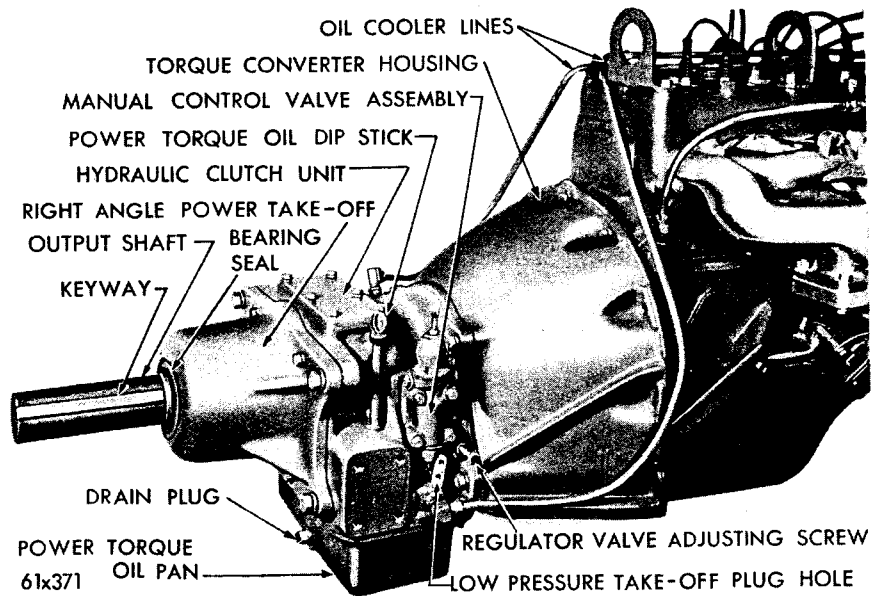

Figure 25 — Right Angle Power Take-off with Power Torque
- (2) A right angle PTO (Fig. 25).